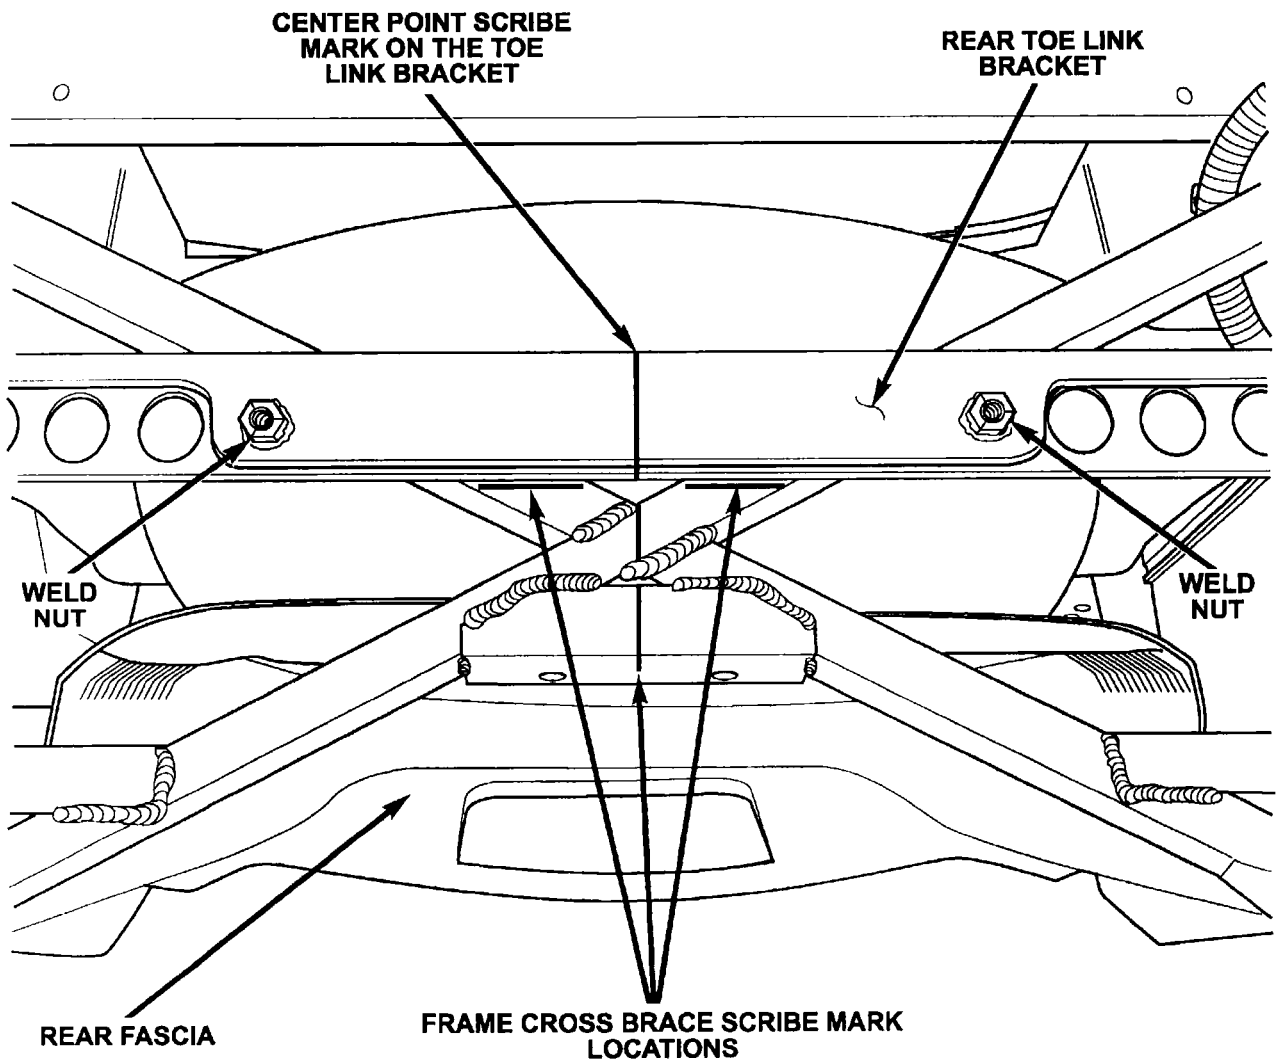

Figure 34
5. Locate the center point between the two weld nuts on the original toe link bracket and place a vertical scribe mark on the toe link bracket (Figure 34).
6. Transfer the scribe mark to the frame cross brace on the vehicle (Figure 34).
7. Make horizontal scribe marks on the frame cross braces where the toe link bracket meets the frame cross brace (Figure 34).